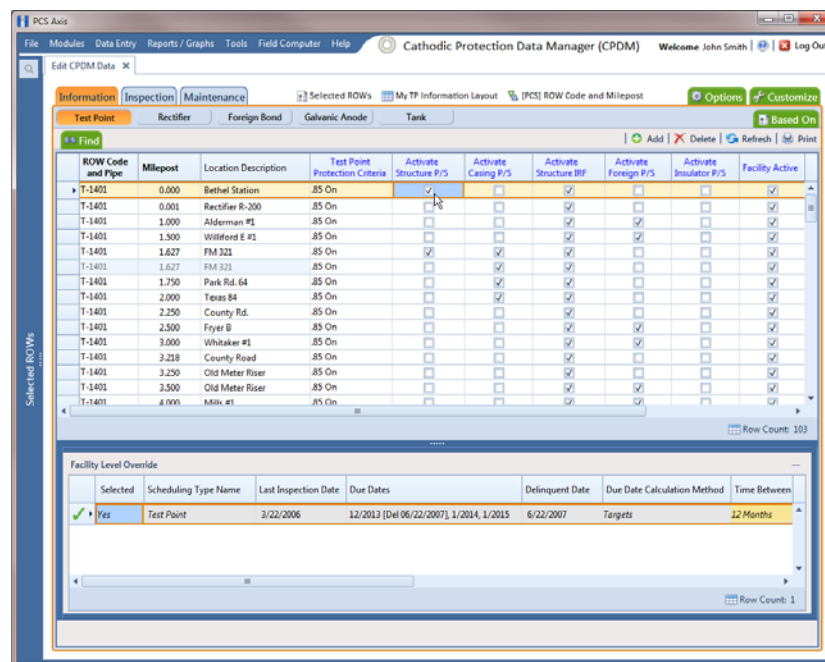

Figure 6-79. Information
- 3 Open the *Information* grid for a facility type. For example, click the **Information** tab  and then a facility type button, such as **Test Point**  (Figure 6-79, page 249).